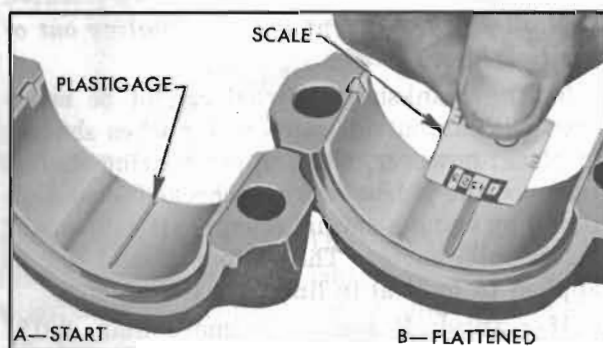

Figure 2-27—Checking Bearing Clearance with Plastigage
2. Place a piece of Plastigage lengthwise along the bottom center of the lower bearing shell (fig. 2-27, view A), then install cap with shell and tighten bolt nuts to 40-45 ft. lbs. torque. NOTE: *The rib on edge of cap and the conical boss on web of rod must be toward rear of engine on all rods in right bank or toward front of engine in left bank.*
5. Using the scale printed on the Plastigage envelope, measure the flattened Plastigage at its widest point. The number within the graduation which most closely corresponds to the width of Plastigage indicates the bearing clearance in thousandths of an inch. See figure 2-27, view B.